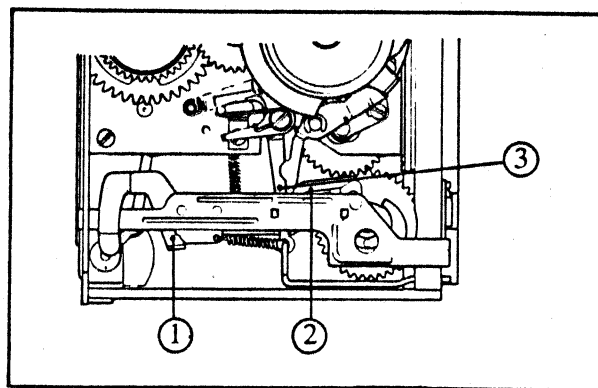

Fig. 61
Check that the release bar (30375) is free from the signal arm pawl (1). Adjust by carefully bending the forward part of the signal arm (2). Use tool V-2200. Minimum free play: 0.2 mm (Fig. 61).